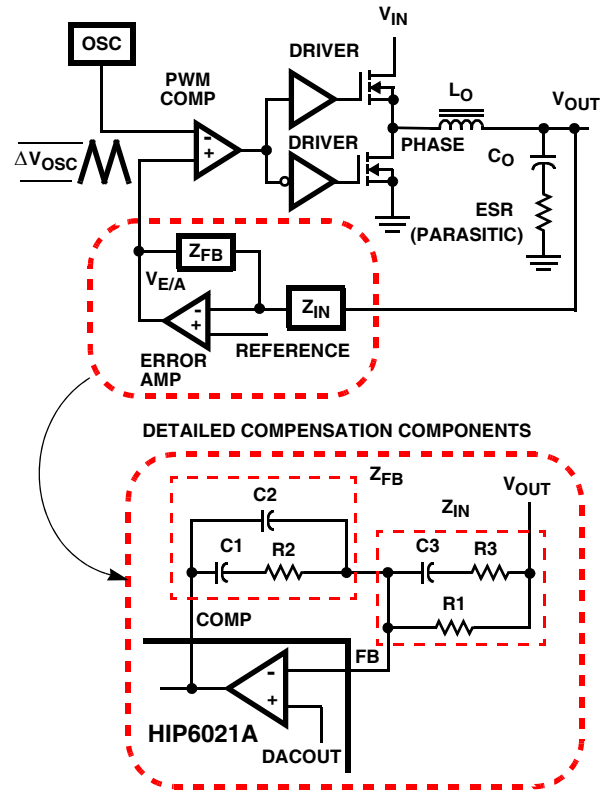
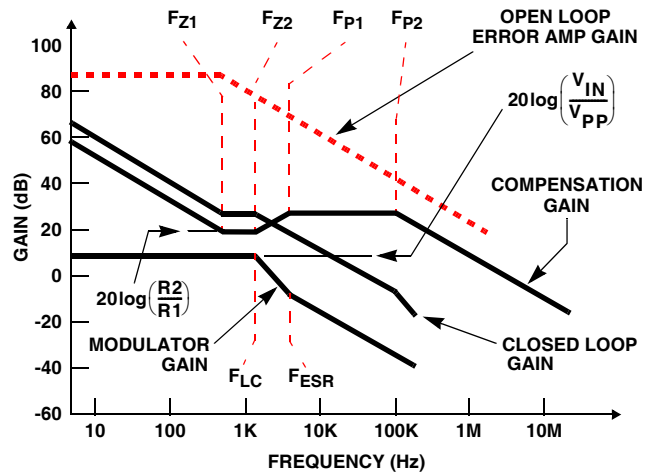

FIGURE 8. VOLTAGE-MODE BUCK CONVERTER COMPENSATION DESIGN
FIGURE 9. ASYMPTOTIC BODE PLOT OF CONVERTER GAIN
Figure 8 highlights the voltage-mode control loop for a synchronous-rectified buck converter. The output voltage ( $V_{OUT}$ ) is regulated to the Reference voltage level. The reference voltage level is the DAC output voltage (DACOUT). The error amplifier (Error Amp) output ( $V_{E/A}$ ) is compared with the oscillator (OSC) triangular wave to provide a pulse-width modulated (PWM) wave with an amplitude of  $V_{IN}$  at the PHASE node. The PWM wave is smoothed by the output filter ( $L_O$  and  $C_O$ ).
Figure 9 shows an asymptotic plot of the DC-DC converter's gain vs frequency. The actual Modulator Gain has a high gain peak dependent on the quality factor (Q) of the output filter, which is not shown in Figure 8. Using the above guidelines should yield a Compensation Gain similar to the curve plotted. The gain. Check the compensation gain at FP2 with the capabilities of the error amplifier. The Closed Loop Gain is constructed on the log-log graph of Figure 9 by adding the Modulator Gain (in dB) to the Compensation Gain (in dB). This is equivalent to multiplying the modulator transfer function to the compensation transfer function and plotting the gain.